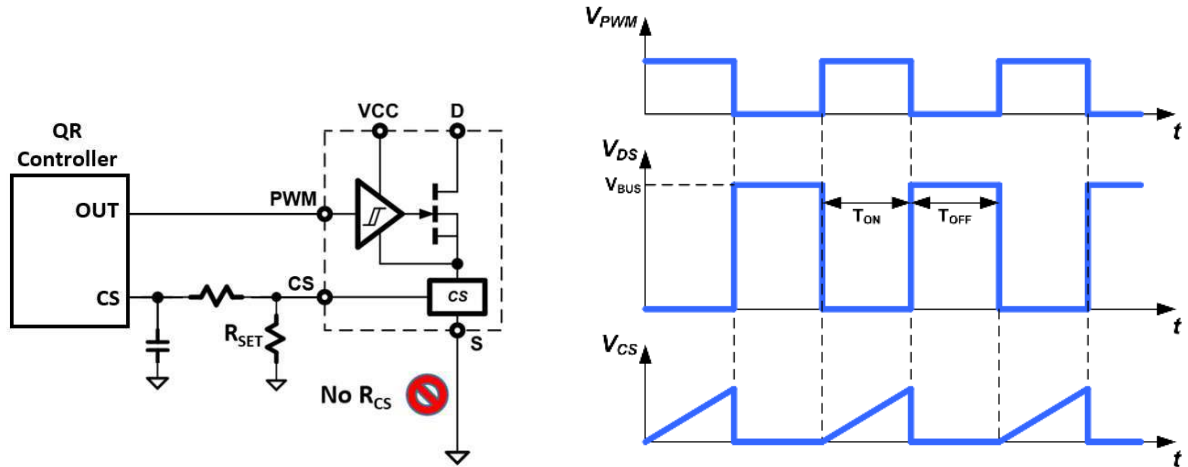

Fig. 26. Current sensing circuit and timing diagram
For many applications it is necessary to sense the cycle-by-cycle current flowing through the power FET. Existing current sensing solutions include placing a current sensing resistor in between the source of the power FET and P_{GND}. This resistor method increases system conduction power losses, creates a hotspot on the PCB, and lowers overall system efficiency. To eliminate this external resistor and hotspot, and increase system efficiency, this IC includes GaNSense™ Technology for integrated and accurate loss-less current sensing. The current flowing through the internal GaN power FET is sensed internally and then converted to a current at the current sensing output pin (CS). An external resistor (R_{SET}) is connected from the CS pin to the Source pin and is used to set the amplitude of the CS pin voltage signal (Fig. 26). This allows for the CS pin signal to programmed to work with different controllers with different current sensing input thresholds.